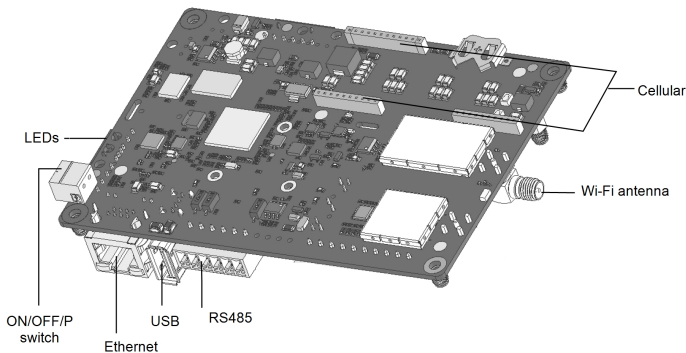

Figure 11: Communication board connectors
- e. Connect the Ethernet connector to the RJ45 port on the communication board (see *Figure 11*).